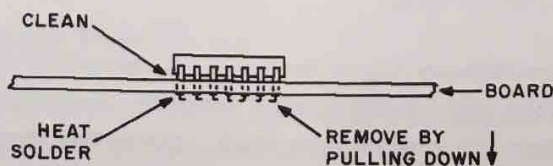

Figure 2.1. Removal of Flat Pack
1. If a component (IC can, transistor, etc.) is to be replaced, remove it with a pair of "flush cutters" by clipping the leads as high, and as close to the "can" as possible (Figure 2.1). Remaining now are only the wire leads.